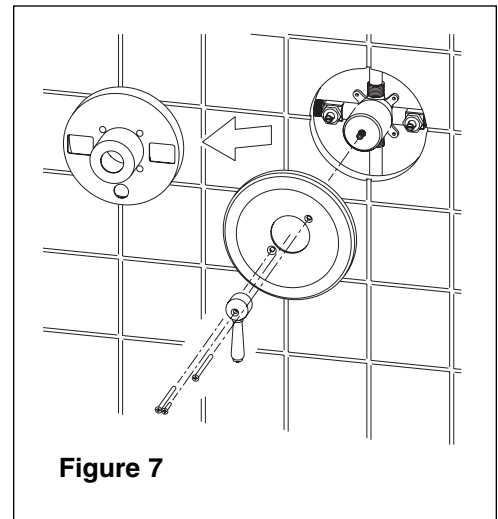

Figure 7
7. After wall is finished, remove plastic guard and replace with chrome sleeve and escutcheon plate (See Figure 7). Orient handle so that lever is pointed down toward "OFF" position.